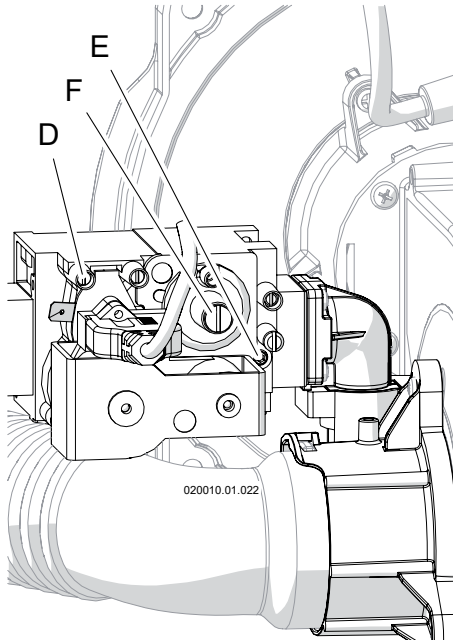

Figure 13-6 - Gas valve
- 6.- After verifying the correct gas pressures disconnect the manometer, turn the screw in pressure connection "D" in Figure 13-6, clockwise until snug and check for any gas leaks.
- 14.- Turn completely counter clockwise the screw "E" of Figure 13-6;